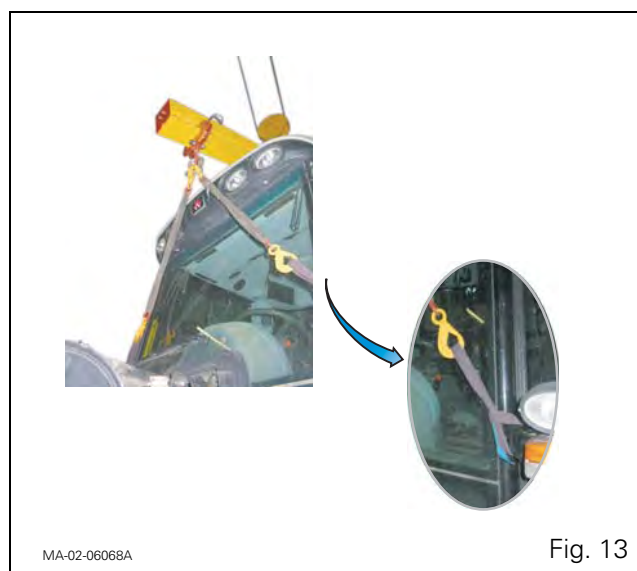

Fig. 13
25. If necessary, separate the cab from the front right and left-hand supports. Gently lift it using a hoist with two straps fitted to the side handles (Fig. 13). Temporarily chock the cab by sliding a suitable chock under each of its supports.